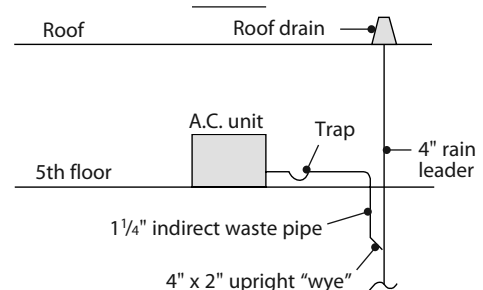

Figure 8-31
- When an air conditioning unit is centrally located below the roof of a building, it may indirectly connect to a rain leader pipe. See Figure 8-31. You can never use this method on a sanitary drainage, waste or vent pipe.